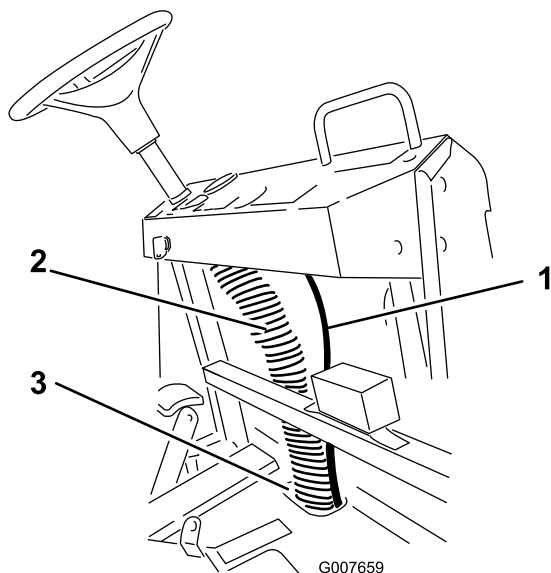

Figure 11
4. Route the hose upward to behind the right side of the dashboard (Figure 11).
5. Secure the hose to the column of existing wiring (Figure 11).